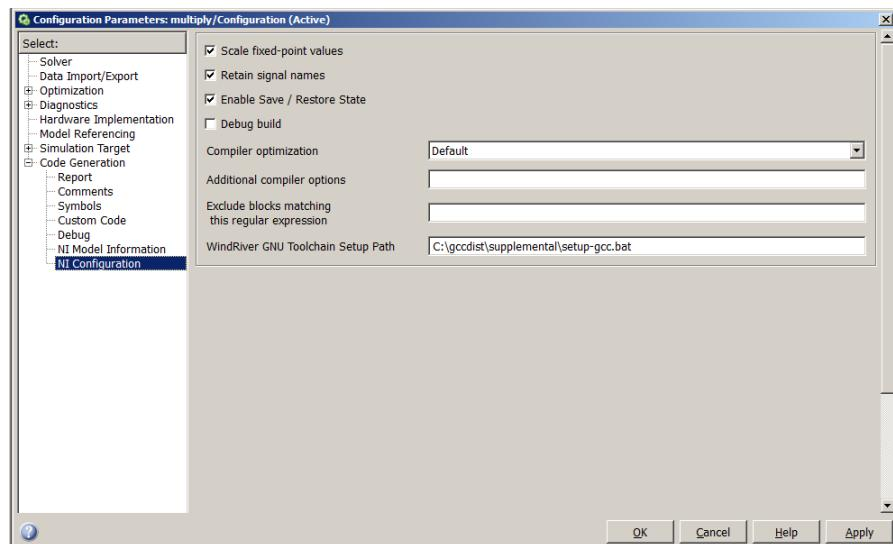

Figure 11: Simulink model configuration - NI configuration
- 4. Make sure that the WindRiver GNU Toolchain Setup Path is correct, Figure 11